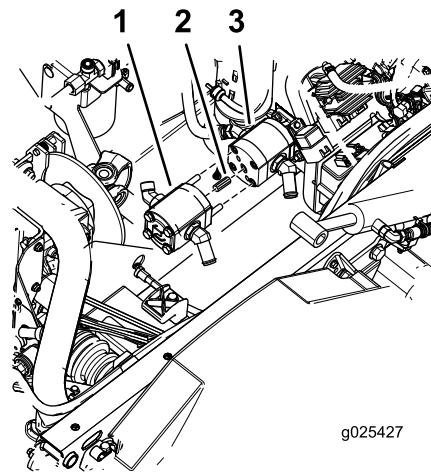

Figure 7
4. Using the 2 long bolts, assemble the high flow pump onto the existing pump (Figure 7).